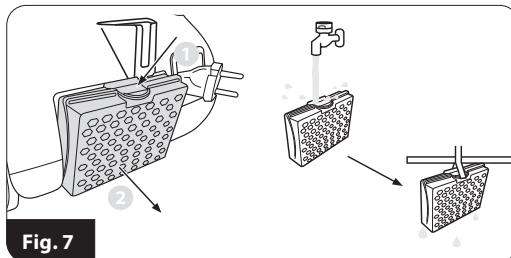

Fig. 7
The exhaust filter ⑫ is located in a flap on the back of the vacuum cleaner and is protected with a latch (Fig. 7). After removing the filter flap, remove the protective sponge from the filter as well. Rinse both the filter and the sponge under running water and dry thoroughly. Put the protective sponge back in place before fitting the filter. **CAUTION! The filter must be completely dry before installation. Installation of a wet filter may cause an electric shock.**